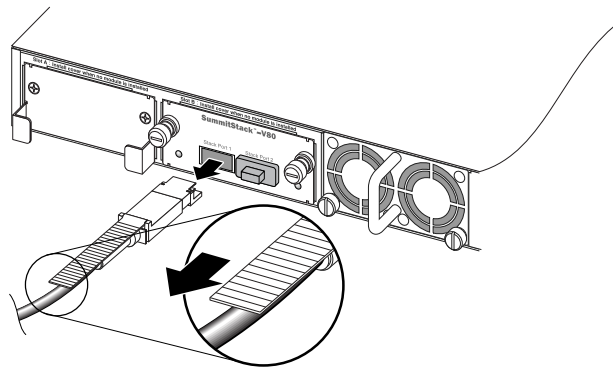

Figure 23: Disconnecting a Direct-Attach Cable (Passive Copper Cable and Active Optical Cable)
1. Hold the connector firmly as you pull the release tab away from the stacking port (see Figure 23).